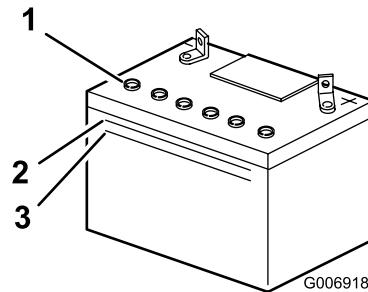

Figure 27
2. Look at the side of the battery. The electrolyte must be up to the Upper line (Figure 27).
Note: Do not allow the electrolyte to fall below the Lower line (Figure 27).
3. Remove the vent caps from the battery (Figure 27).
4. Slowly pour distilled water into each battery cell until the electrolyte level is up to the Upper line (Figure 27) on the battery case.
5. Wait 5 to 10 minutes after filling the battery cells. Add distilled water, if necessary, until the electrolyte level is up to the Upper line (Figure 27) on the battery case.